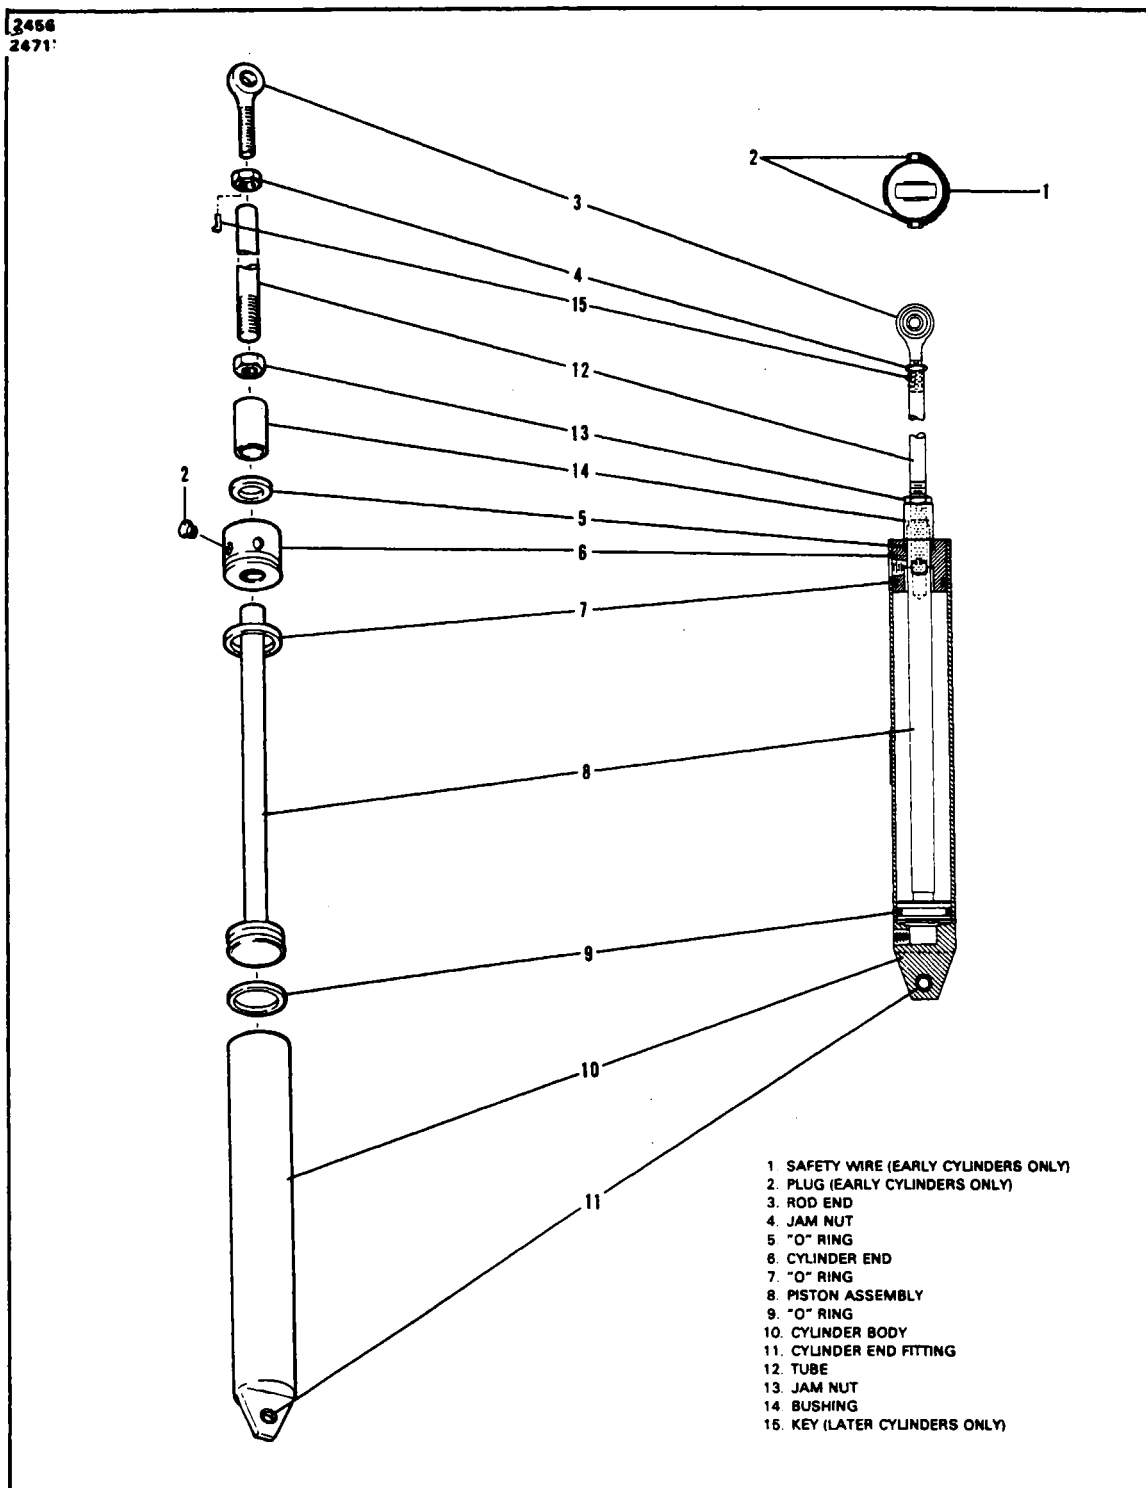

Figure 6-28. Flap Actuating Cylinder
- a. Install an "O" ring (9) on the piston (8).
- b. Install "O" rings (5 and 7) on the interior and exterior of the cylinder end (6). The exterior "O" ring on later cylinders has an "O" ring back up which must be installed along with the "O" ring.
- c. Lubricate the piston assembly (8), interior of the cylinder body (10) and the cylinder end (6) with hydraulic fluid (MIL-H-5606).
- d. Slide the cylinder end (6) onto the piston assembly (8).
- e. Slide the piston assembly (8) and cylinder end (6) into the cylinder body (10). Later cylinders require the cylinder end (6) to be screwed into the cylinder body (10).
- f. On early cylinders install the two plugs (2) to the side of the cylinder and safety with MS20995-C41 wire.
- g. For the flap actuating cylinder (refer to Figure 6-28), install the tube (12) into the piston assembly (8) and place the bushing (14) over the tube and secure in place with jam nut (13).
- h. Install the rod end bearing (3) and jam nut (4) to the piston assembly (8). Later cylinders include the key which must be installed in the reverse order of removal.